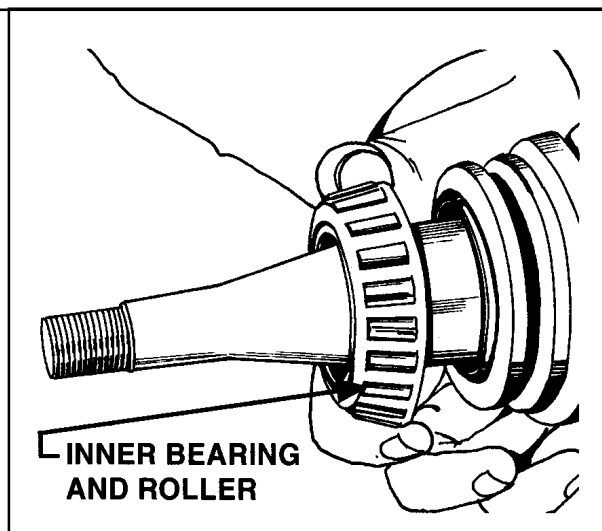

Figure 8
6. Install the front wheel inner bearing cone and roller assembly on the front wheel spindle, Figure 8.